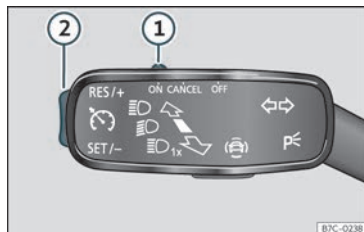

Fig. 155 On the turn signal lever: controls for operating the GRA.
- Move the control»» Fig. 155 ① to ON.
- Press button»» Fig. 155 ② in area SET/-.
- Move the control»» Fig. 155 ① to CANCEL or step on the brake.
- Press button >>> Fig. 155 ② in area RES/+.
While the GRA is set, the stored speed can be adjusted with button >>> Fig. 155 ②:
- To increase in increments of 1 km/h (1 mph) briefly press button >>> Fig. 155 ② in the area RES/+.
- To increase the speed without interruption, keep button >>> Fig. 155 ② pressed down in the area RES/+.
- To reduce in increments of 1 km/h (1 mph) briefly press button >>> Fig. 155 ② in the area SET/-.
- To reduce the speed without interruption, keep button >>> Fig. 155 ② pressed down in the area SET/-.
- Move control >>> Fig. 155 ① to OFF.